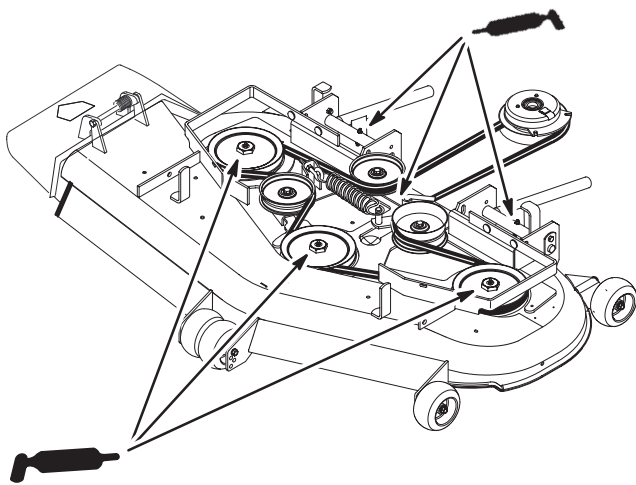

Figure 45
2. Grease the fittings on the three spindle bearings (Fig. 45).
3. Grease the idler pulley pivot (Fig. 45).
4. Grease the fittings on the push arms (Fig. 45).